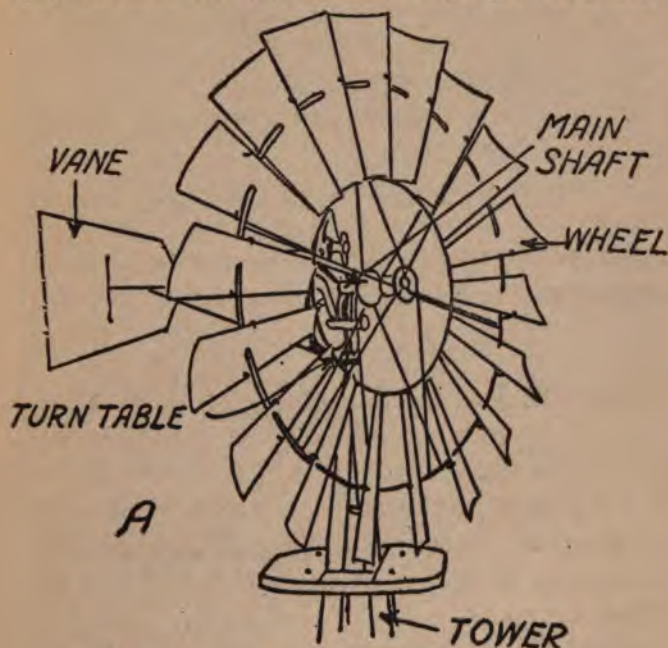

FIG. 44A.—THE PARTS OF A STEEL WINDMILL
(5) the *gears*, (6) the *tailbone* and (7) the *vane*, or rudder, all of which are shown in Fig. 44A.